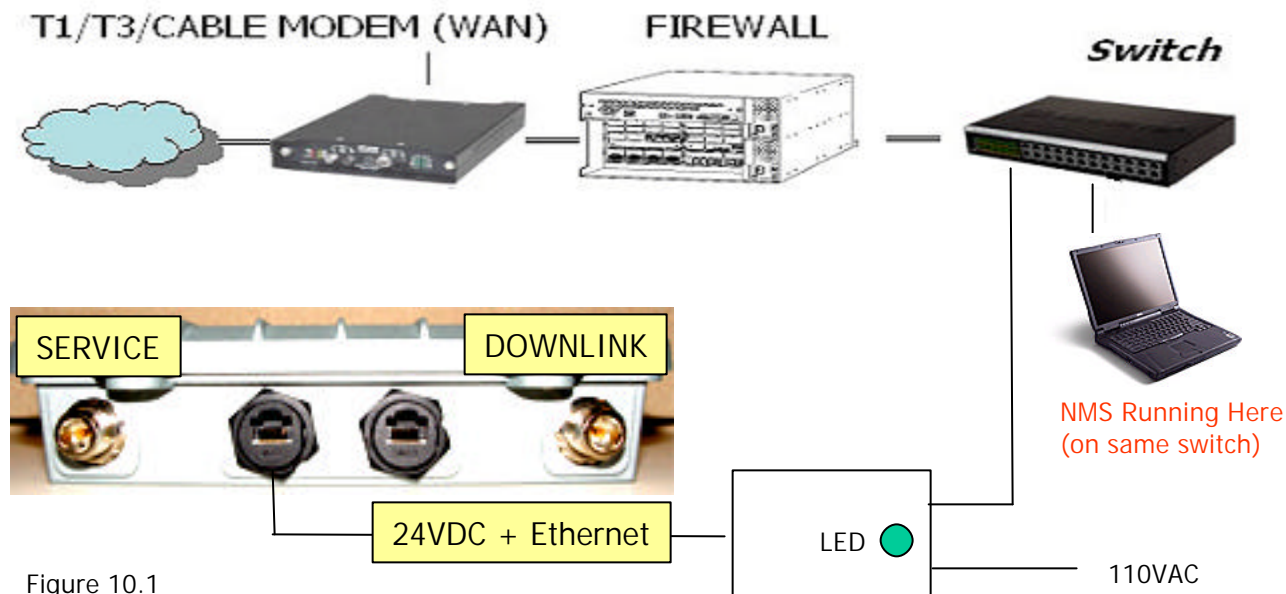

Figure 10.1
1. Mount the Antennas as shown on Figure 10.1. Power up the POE Injector. The LED will light up. Power up the Module. The fan should start and be audible. 4. Bring up the 11a/b/g Wireless Card utility on the laptop.